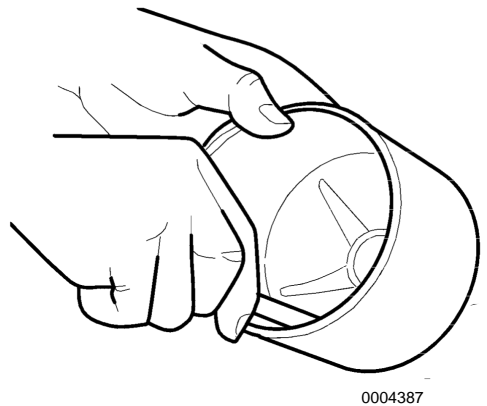

Figure 7
5. Scrape off the deposits from the inside of the rotor bowl (Figure 7).